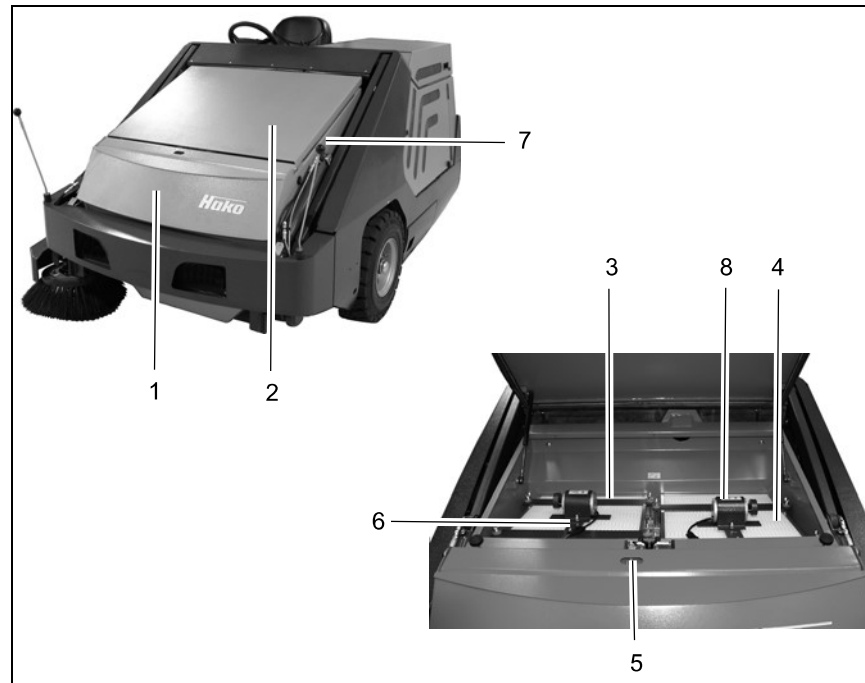

Fig.18
The two dust filters (Fig. 18/4) are located under the filter housing cover (Fig. 18/2). The fine dust swirled up by the cylindrical broom is drawn into the filter element by the suction fan. Check the dirt in the dust filter (Fig. 18/4) on a weekly basis. Clean the dust filter and activate the shaking process as necessary. In this case, observe the control lamp for filter soiling in the operating panel.
2. Actuate the unlocking mechanism for the filter housing cover (Fig. 18/5) and pivot the filter housing cover (Fig. 18/2) up.
3. Loosen the wing nuts on the mounting frame (Fig. 18/3).
4. Disconnect the plug connections from the shaking motor (Fig. 18/6) and remove the mounting frame (Fig. 18/3) together with the dust filters (Fig. 18/4).
5. Remove the dust filters (Fig. 18/4).
1. Check the dust filter (Fig. 18/4) on a weekly basis for signs of damage. Change the dust filter, if necessary.
3. Actuate the unlocking mechanism for the filter housing cover (Fig. 18/5) and pivot the filter housing cover (Fig. 18/2) up.
4. Loosen the wing nuts on the mounting frame (Fig. 18/3).
5. Disconnect the plug connections from the shaking motor (Fig. 18/6) and remove the mounting frame (Fig. 18/3) together with the dust filters (Fig. 18/4).
6. Remove the dust filters (Fig. 18/4).
3. Use the accelerator to position the vehicle so that the distance between the vehicle and waste container or garbage truck is sufficient to allow the dirt hopper (Fig. 18/7) to be raised.
4. Use the joystick (Fig. 10/1) to raise the dirt hopper (Fig. 18/7) (Position 3) until it is above the level of the container.